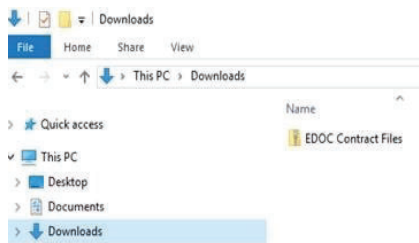

Figure 2-5: Opening the zip file
5. Windows Explorer will open to the location where the zip file was downloaded. This is typically the Downloads location. Double-click on the **EDOC Contract Files.zip** file (Figure 2-5).